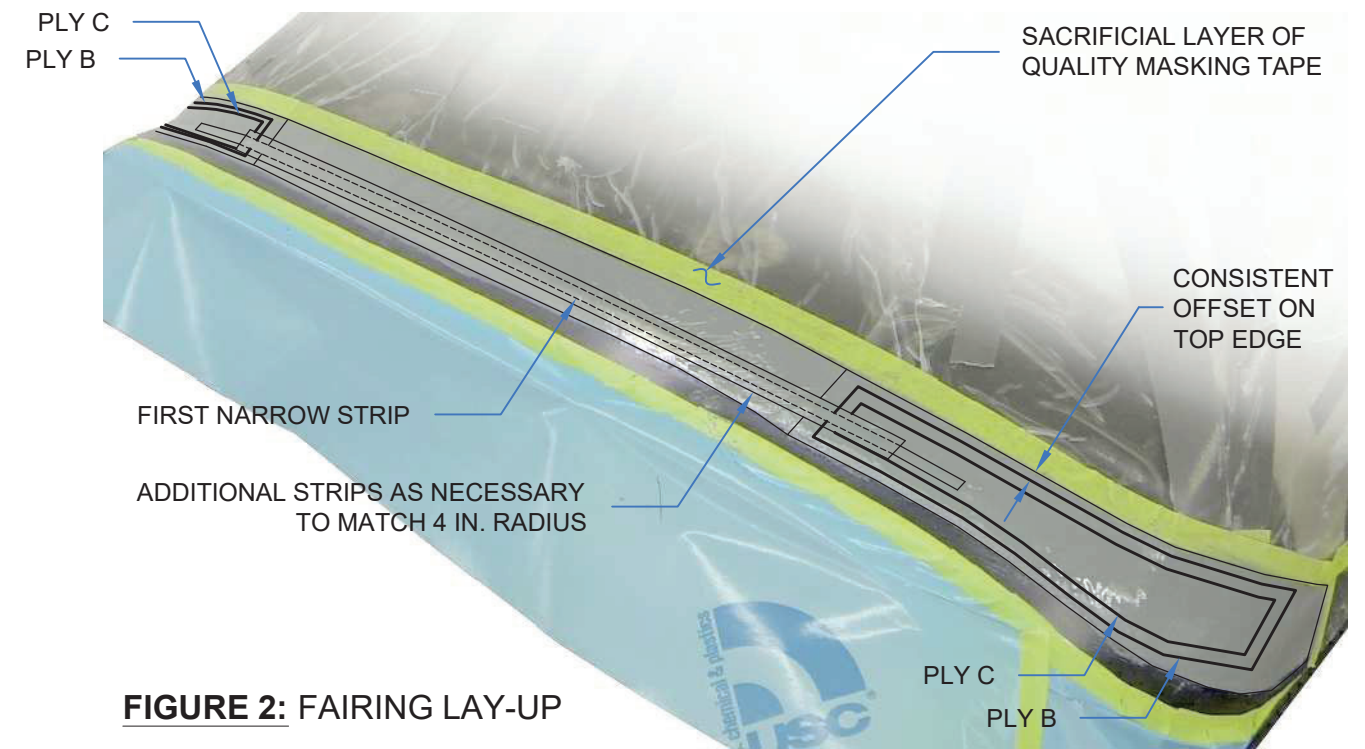

FIGURE 2: FAIRING LAY-UP
Step 3: The partially cured dyed resin will not allow very much positioning leeway after Ply B comes into contact with it. Carefully position Ply B on the Canopy Assembly as shown in Figure 2.
Step 4: Apply a narrow strip of glass cloth to begin building the layup shown in Figure 2 and Figure 3.
Step 6: Apply Ply C as shown in Figure 2 and Figure 3.